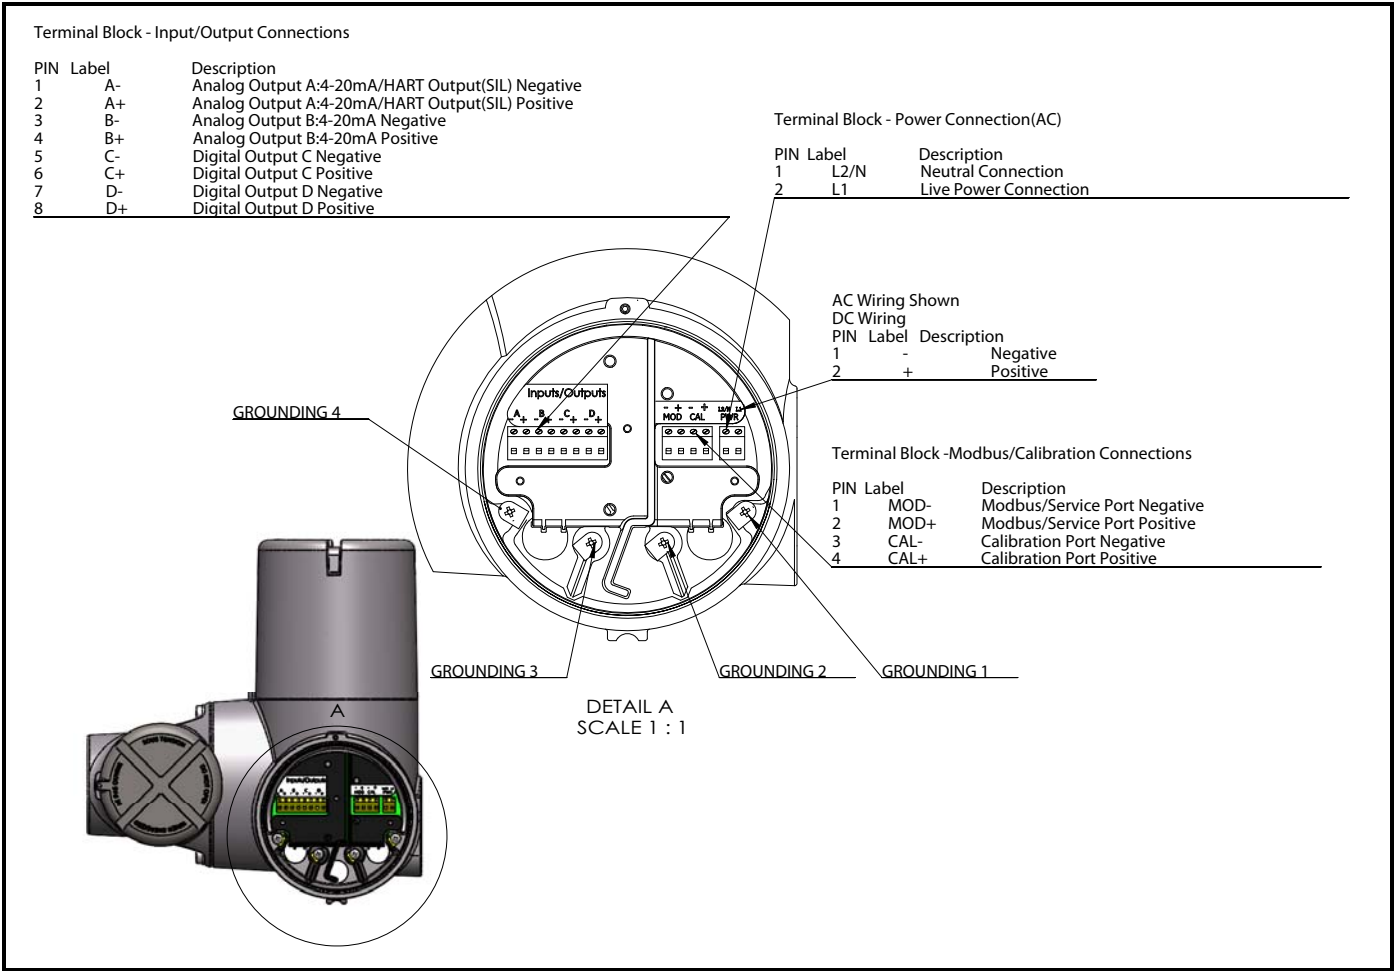
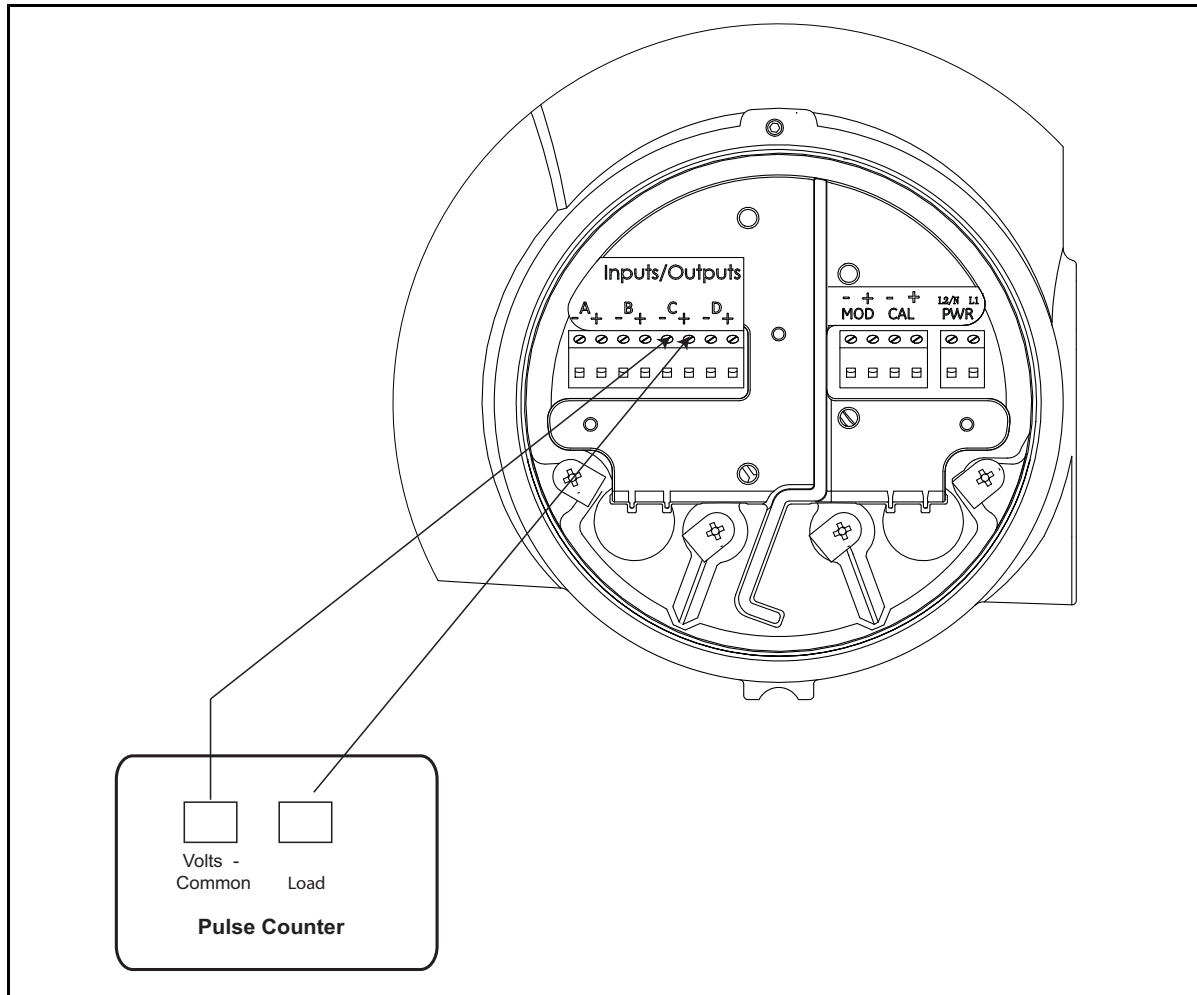
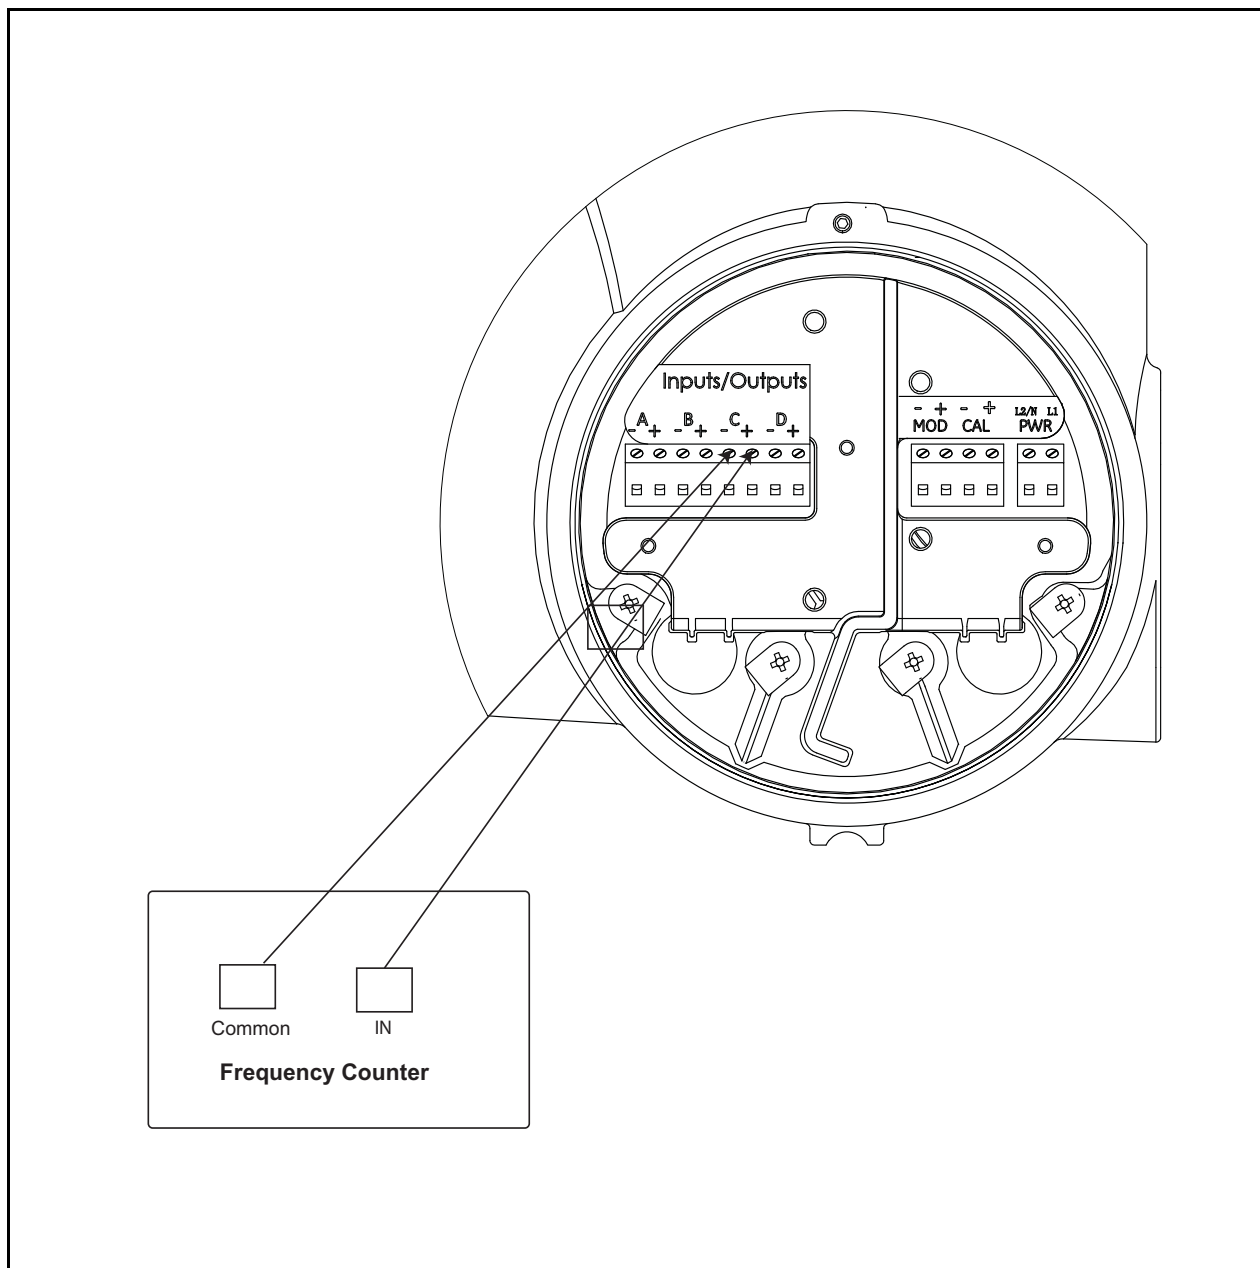
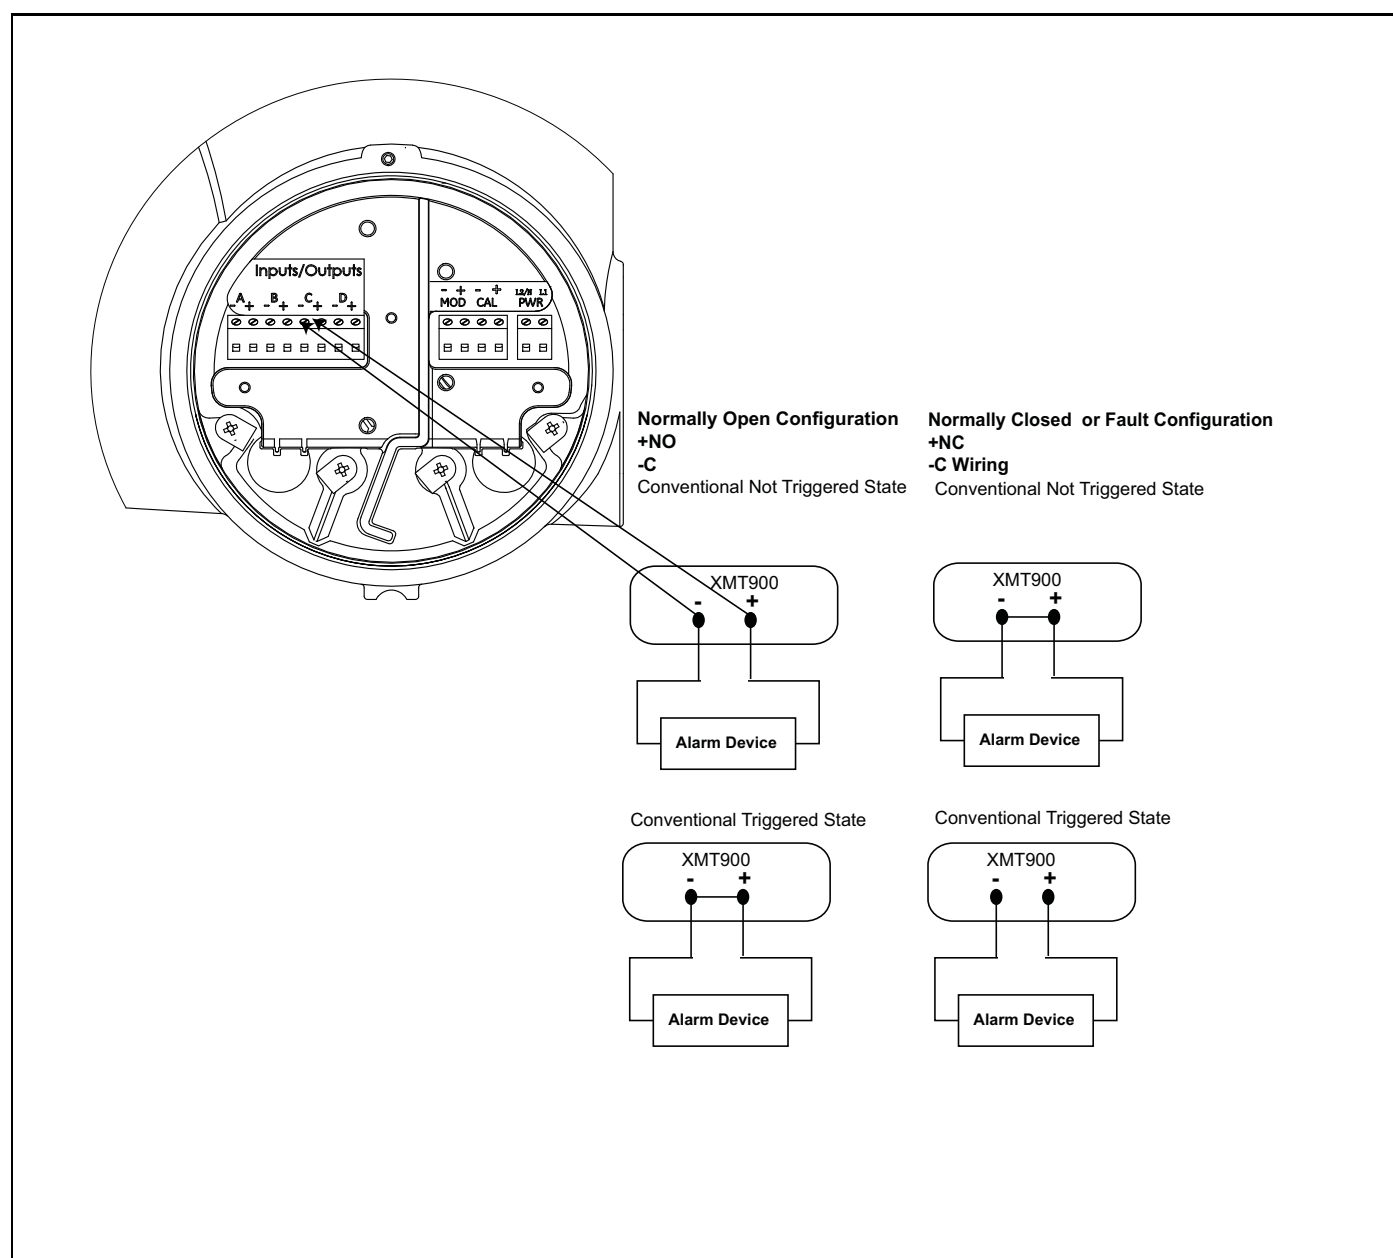

Figure 10: Wiring Diagram (Dwg. 702-1312)
Figure 11: Wiring a Totalizer (Pulse) Output
Figure 12: Wiring a Frequency Output
Figure 13: Wiring Alarm Outputs
This section contains instructions for making all the necessary electrical connections to the XMT900 flow transmitter. Refer to Figure 10 for a complete wiring diagram.
Refer to Figure 10 below and prepare the XMT900 for wiring by completing the following steps:
WARNING! Proper grounding of the PanaFlow HT chassis is required to prevent the possibility of electric shock. See Figure 10 above to locate the chassis grounding screw. All ground screws should be hand tightened only. Do not over-torque. Maximum torque is 2.5 N-m (22 in-lbs).
3. Locate the terminal block shown in Figure 10 on page 11 and wire the option as indicated on the label inside the wiring cover (see Figure 2.5 on page 11). Secure the cable clamp.
3. Refer to Figure 10 on page 11 for the location of the terminal block and wire the analog output as shown. Secure the cable clamp.
3. Refer to Figure 10 on page 11 for the location of the terminal block and wire the digital output (C and D) as shown. Secure the cable clamp.
Wire this option in accordance with the connections shown on the label in the rear cover (see Figure 10 on page 11). Figure 11 shows a sample wiring diagram of a totalizer output circuit. Refer to Appendix A, *Specifications* for the load and voltage requirements.
Wire this option in accordance with the connections shown on the label in the rear cover (see Figure 10 on page 11). Figure 12 below shows a sample wiring diagram of a frequency output circuit. Refer to *Appendix A, Specifications* for the load and voltage requirements.
In setting up an alarm relay, it may be programmed for either *conventional* or *fail-safe* operation. In fail-safe mode, the alarm relay is held at “closed” (5 VDC), except when it is triggered or a power failure or other interruption occurs. Connect each alarm relay in accordance with the wiring instructions shown in Figure 13 below (see Figure 10 on page 11). Refer to Appendix A, *Specifications* for the load and voltage requirements.
To wire to this RS485 serial port, refer to Figure 10 on page 11 and complete the following steps:
Refer to Figure 10 on page 11 to locate the terminal blocks and connect the line power as follows:
3. Route the cable through the conduit hole and connect the line power leads to the power terminal, using the pin number assignments shown in Figure 10 on page 11.